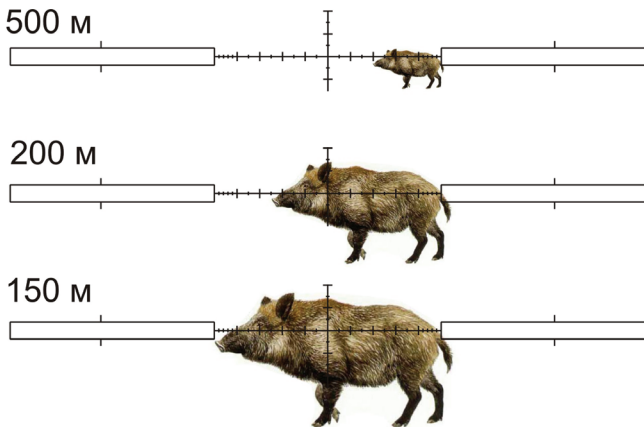

Figure 3
- 3) Look at the cross hair of the riflescope so that one dimension of the target is visible through the Mil-dot reticle (see Fig. 3),
The Figure 3 shows an example of distance estimation to a boar, which is 1.5 meters in length. Also, it is possible to determine distances to targets with size of the target being from 30 cm to 2 m using Tables 5 and 6.